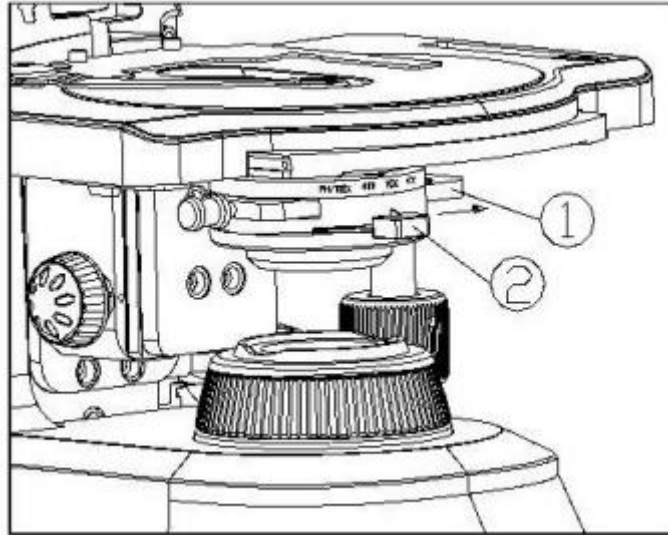

Figure 11
1. Keep the dark field flapper ① face up (with the side labeled facing upward) and insert it from left to right into the condenser flapper socket, following the direction indicated by the arrow (see Fig. 11).